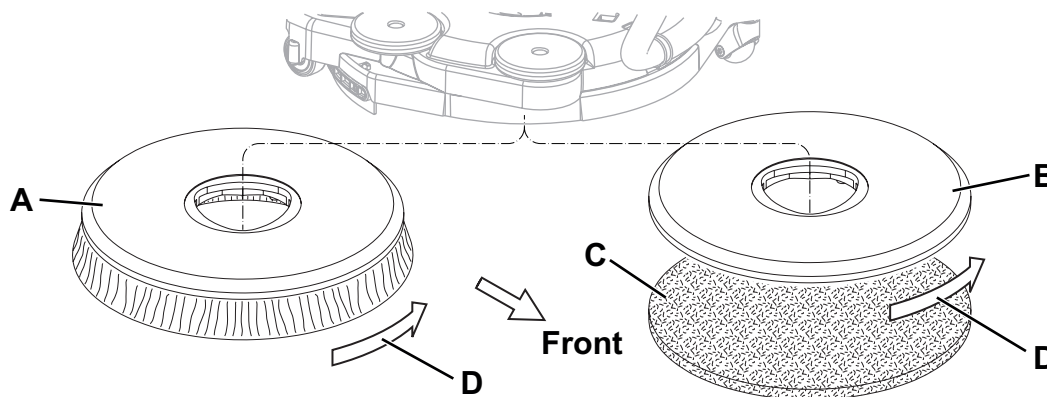

Figure 1
1. Open the cover (4) and check that the battery is connected to the machine with the connector (7).
2. Turn the function selection knob (31) to program (32). If the green warning light (37) turns on, the batteries are ready to be used.
*Install either the brush (A, Fig. 1) or the pad-holder (B and C) according to the type of floor to be cleaned.*
2. Turn the function selection knob (31) to program (32).
3. Press the enabling push-button (38) together with the brush levers (39) to engage the brush/pad-holder.